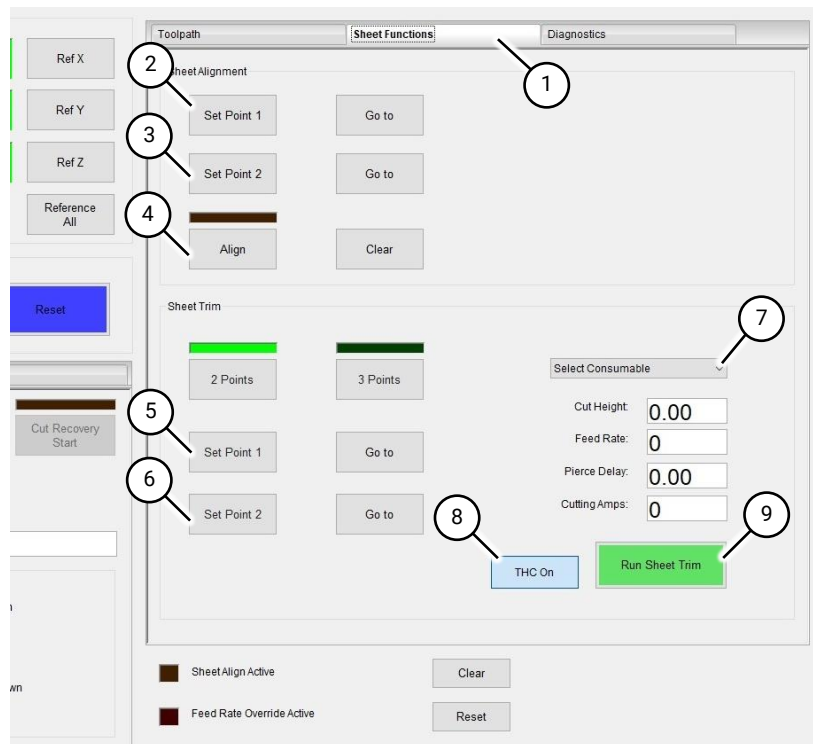

Fig 87 Sheet functions
2.1 Select the Sheet Functions tab (Fig 87 (1)).
2.3 Press the Set Point 1 button (Fig 87 (2)). A message box confirms that the sheet align point has been recorded.
2.5 Press the Set Point 2 button (Fig 87 (3)). A message box confirms that the sheet align point has been recorded.
2.6 Press the Align button to set sheet alignment (Fig 87 (4)).
- 1.3 Select 'Set Point 1' (Fig 87 (5))
- 1.5 Select 'Set Point 2' (Fig 87 (6))
- 1.10 Open the consumable drop-down menu (Fig 87 (7)) and select the consumable that will be used for the trim operation.
- 1.12 Torch Height Control can be turned on or off using the 'THC On/Off' button (Fig 87 (8)).
- 1.13 Press the 'Run Sheet Trim' button (Fig 87 (9)) to start the trim process.